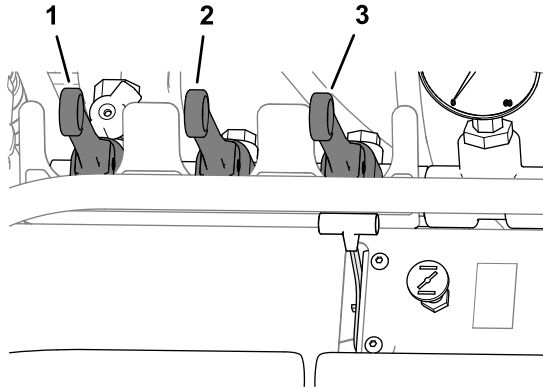

Figure 36
2. Ensure that the handles for the spray-control valves are in the OFF position (Figure 36).